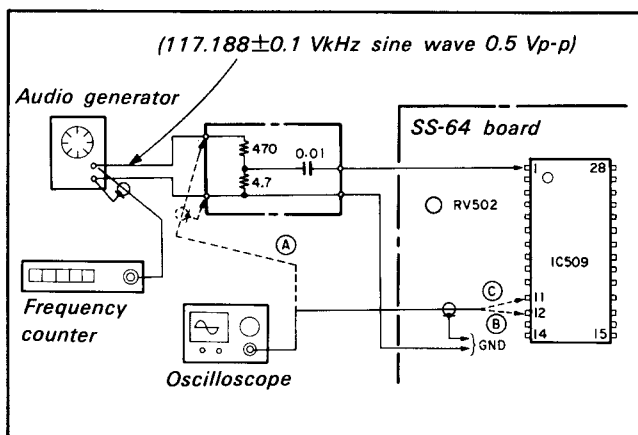

Fig. 9-8.
Signal	} See Fig. 9-8
- 1) Check the output level of the audio generator with an oscilloscope and adjust so that the sine wave output level becomes approximately 0.5 Vp-p. (Fig. 9-8 (A))
- 4) Connect an oscilloscope to Pin ⑫ of IC509 and read the 47 kHz signal level. (Approximately 2 Vp-p) (Fig. 9-8 (B))
- 5) Connect an oscilloscope to Pin ① of IC509. (Fig. 9-8 (C))